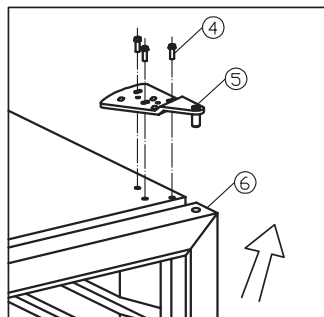

fig. 7.2
- While holding the door firmly, loosen and remove the top hinge, lift up and remove the door. See fig.7.2